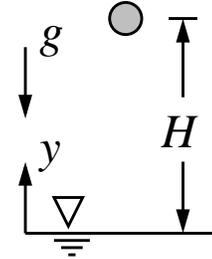

Figure 1: *Falling shot.*
1. (10 pts) Spherical metallic shot having  $k = 40 \text{ W}/(\text{m} \cdot \text{K})$  and a radius of  $R = 0.002 \text{ m}$  is heat-treated in a 2-step process. It first free-falls a distance  $H$  for the purpose of cooling from  $425^\circ \text{C}$  to  $225^\circ \text{C}$ , upon which it splashes into a water bath for quenching (Fig. 1). The free-fall starts from zero initial velocity and accelerates according to  $g = 9.8 \text{ m}/\text{s}^2$ , during which the convection coefficient can be taken as a constant value of  $h = 60 \text{ W}/(\text{m}^2 \cdot \text{K})$ . Neglecting considerations of aerodynamic resistance, determine the necessary  $H$  if the ambient air temperature is  $T_\infty = 25^\circ \text{C}$  and the shot has a cooling time-constant of  $\tau = 4 \text{ s}$ .